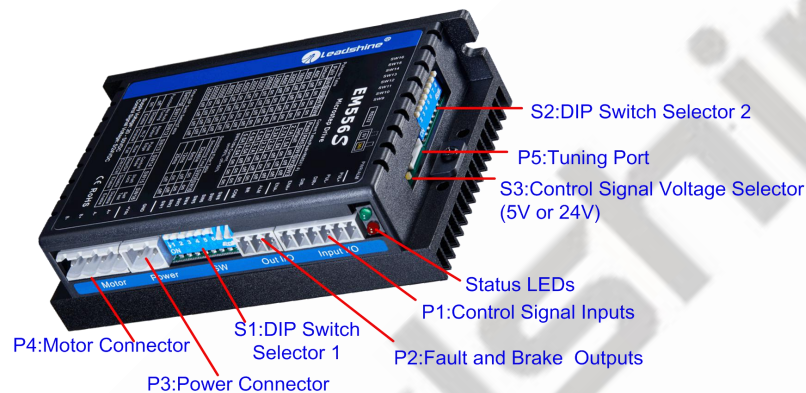

Figure 2 Connectors, DIP switches, and LED locations
(4) Single pulse (step & direction) or double pulse (CW/CCW) is set by DIP Switch SW14
(5) DIR signal requires advance PUL signal minimum 5 μs in single pulse mode
(6) The activated edge of PUL and DIR is set by DIP Switch SW13
(7) The factory setting of control signal voltage is 24V, must need to set S3 (figure 2) if it is 5V
(4) The default control signal voltage is 24V, to set S3 (figure 2) if it is 5V
(5) Enable time to be at least 200ms
The EM556S can accept differential or single-ended control signals (pulse, direction, and enable) in open-collector or PNP connection through the P1 connector (figure 2). It is recommend to add an EMI line filter between the power supply and the drive to increase noise immunity for the drive in interference environments.
The first 8-bit is located on the side (DIP switch selector 1 in Figure 2) and used to configure settings of micro step resolution, output current, and motor standstill current as shown below, the factory setting of SW1-SW8 is **OFF, OFF, OFF, OFF, OFF, OFF, ON, ON**.
The second 8-bit DIP switch is located on the top (DIP switch selector 2 in figure 2), and used to configure settings of control command filtering time, motor auto-configuration, fault output impedance, pulse active edge, control mode, lock shaft, and self-test as shown below, the factory setting of SW1-SW8 is **OFF, OFF, OFF, ON, ON, OFF, OFF, OFF**.
The Third 1-bit selector is located on the top (DIP switch selector 3 in figure 2), used to configure the voltage of control signals. For the safety of optically coupled, the factory setting is 24V, which no need to connect 2K resistors like the old drives, making it easier to use. When the voltage of the control signal is 5V, the S3 must be set to 5V, otherwise, the motor won't work.